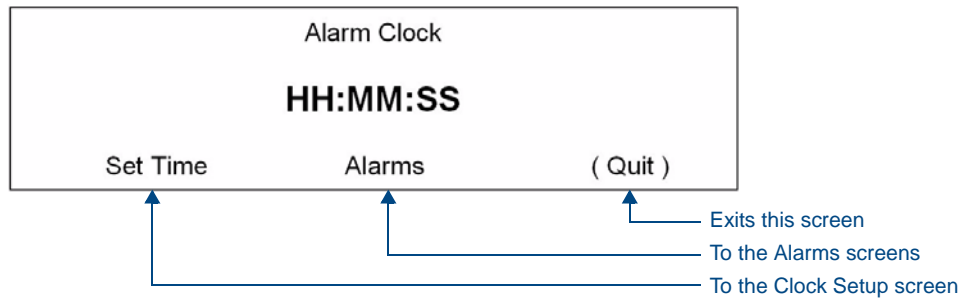
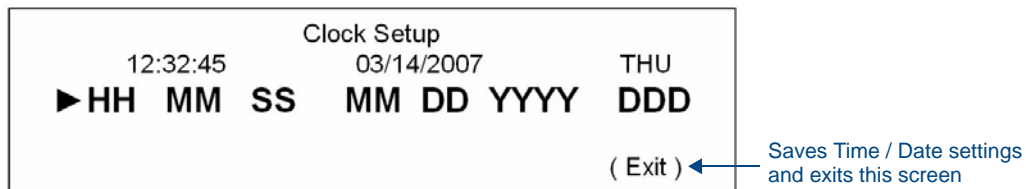

FIG. 42 Clock Setup Mode screen
FIG. 43 Clock Setup screen
Select **Clock** from the *System Setup Mode* screen (FIG. 23) to access the **Clock Setup Mode** screen (FIG. 42):
1. Select **Set Time** in the *Clock Setup Mode* screen (FIG. 42) to access the **Clock Setup** screen that displays the current Time, Date, and Day (FIG. 43):
2. Select **HH** (hour) by using the Navigation buttons (<< / >>) on the front of the Controller. An arrow is displayed in front of HH, as shown in FIG. 43.
1. In the *Clock Setup* screen (FIG. 43), select **MM** (month) by using the Navigation buttons (<< / >>) on the front of the Controller. An arrow is displayed in front of MM.
1. In the *Clock Setup* screen (FIG. 43), select **DDD** (day) by using the Navigation buttons (<< / >>) on the front of the Controller. An arrow is displayed in front of DDD.
1. Select **"Alarms"** from the Clock Setup Mode screen (FIG. 42).